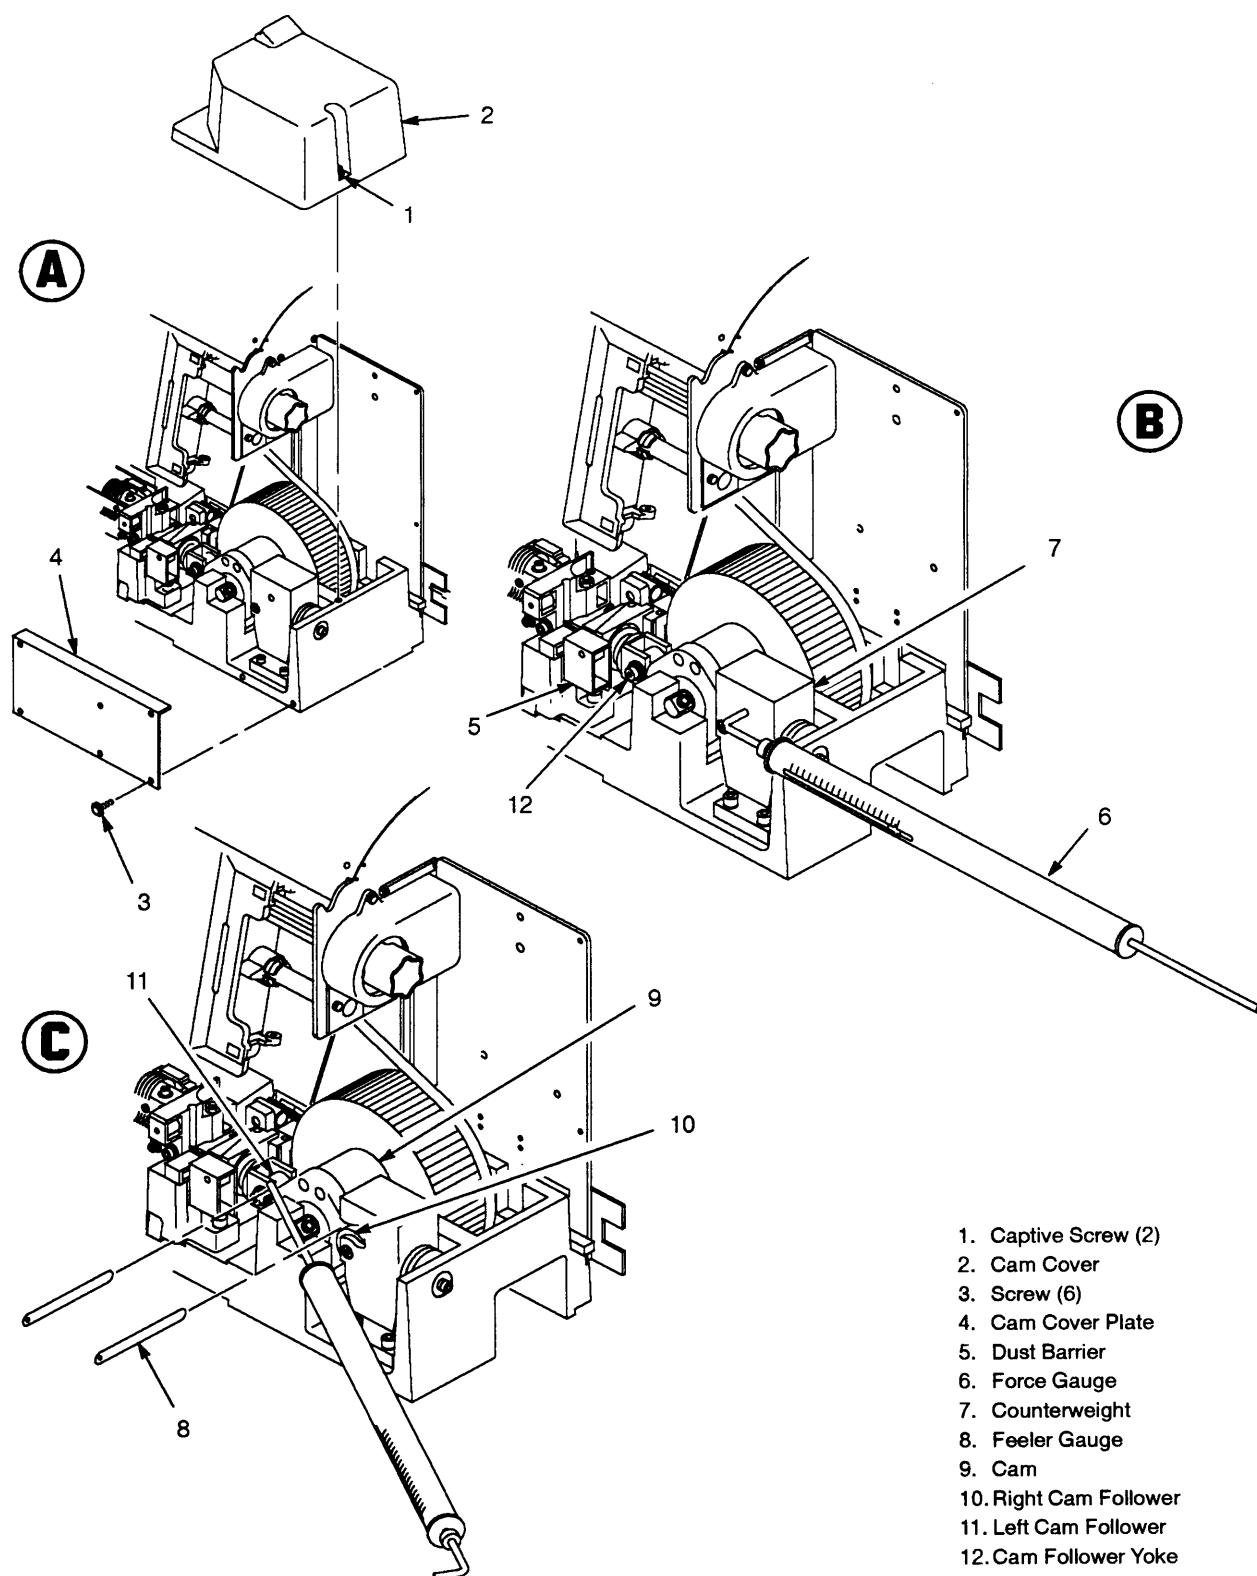

Figure 6-12. Setting Shuttle and Counterweight Preload
7. Insert a 0.003 inch flat feeler gauge (8) between the cam (9) and the right cam follower (10).
9. Insert a 0.003 inch flat feeler gauge between the cam and the left cam follower (11).
10. Press the rod end of the force gauge against the cam follower yoke (12), positioning the gauge as close to parallel with the shuttle shaft as possible. (Figure 6-12, detail C.)